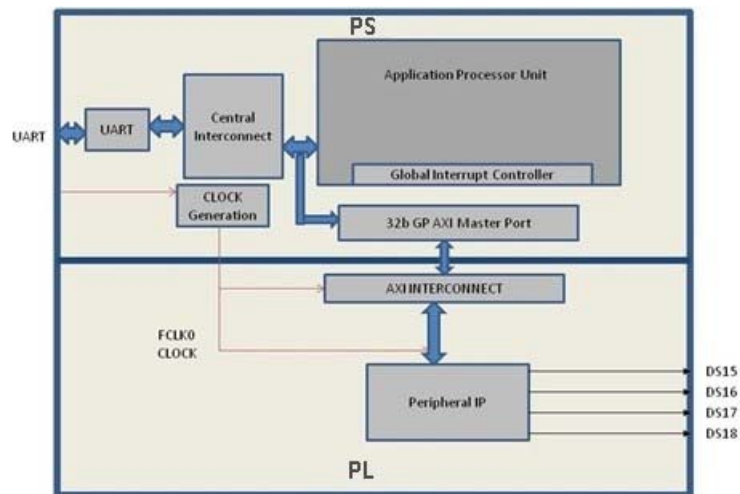

Figure 9-5: Block Diagram
Now, you will create a system for the ZC702 board by instantiating the peripheral IP as a slave in the Zynq SoC processing logic (PL) section. You will then connect it with the PS processor through the processing system (PS) general purpose (GP) master port. The block diagram for the system is shown in Figure 9-5.